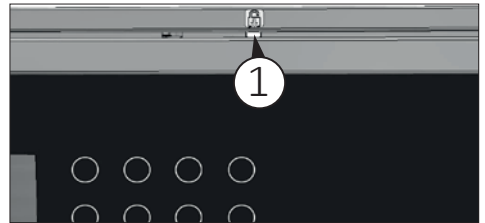
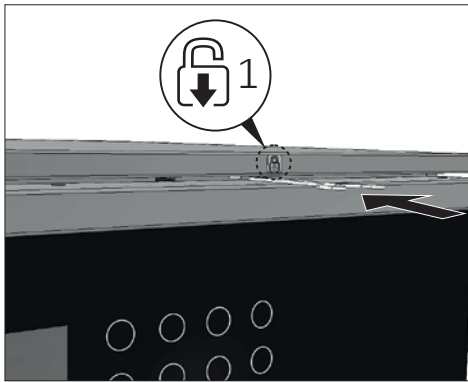

Fig. 14.1
Fig. 14.2
- 1) Push the key supplied in the pack horizontally into the gap between the door and the lid or worktop (1 Fig. 14.1), to position the key correctly, follow the position indicated on the label (1 Fig. 14.2) on the door handle.